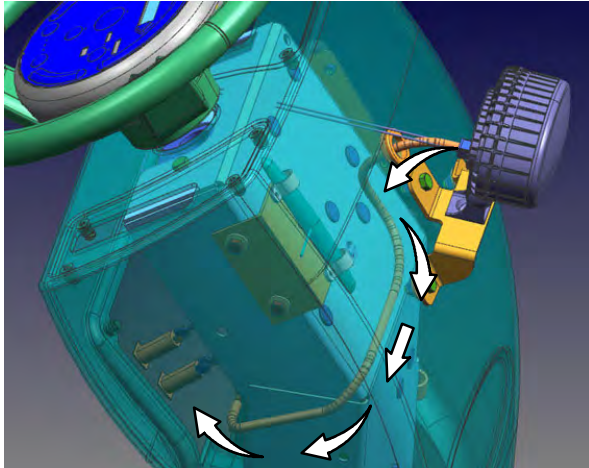

FIG. 7
8. Remove the nut from the sealed chord grip on the blue spotlight harness (3). (Fig. 7)
- 12.Route the blue spotlight harness (3) between the front shroud and steering channel, around the right side of the steering channel, and to the circuit breakers located on the electrical panel. (Fig. 7)